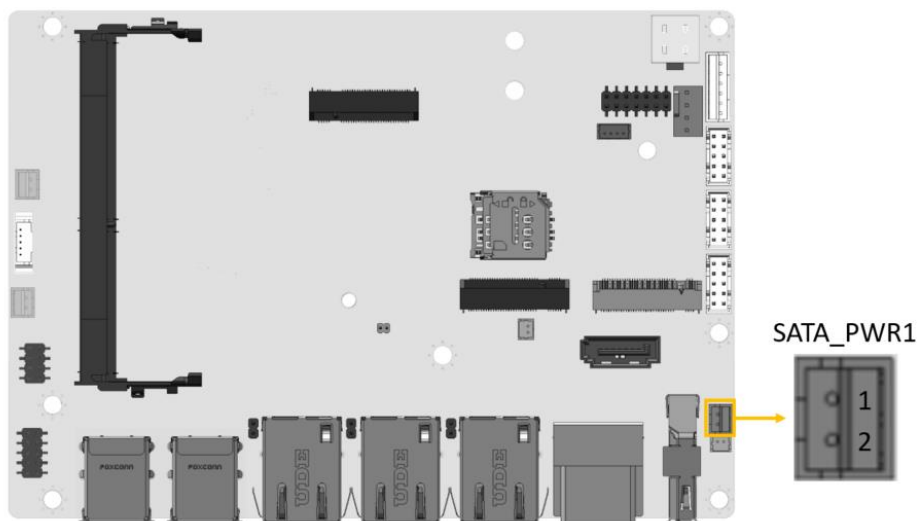

Figure 3-18: SATA Power Connector Location
- CN Location:** See **Figure 3-18**